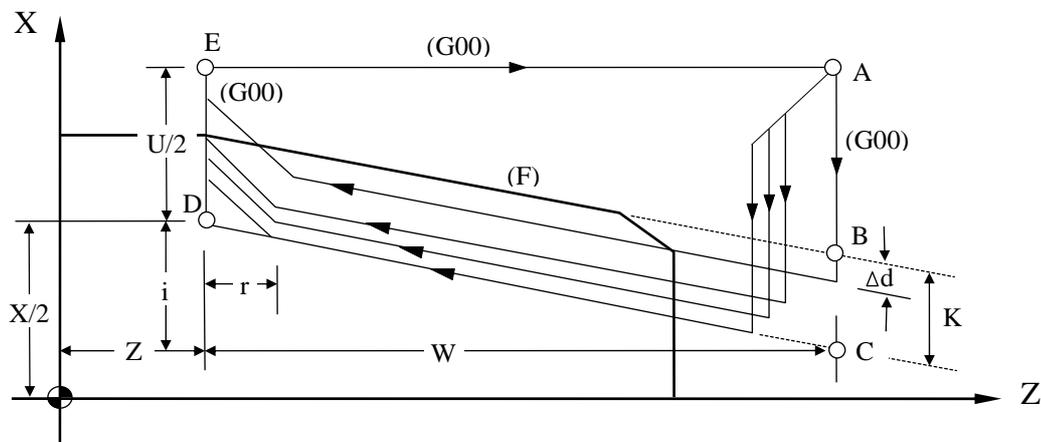

Fig 3-36 Compound Thread Canned Cycle, G76
- The segment CD is cut with feed-rate F(l) while the rest with G00. The sign for incremental coordinate (U, W) and R is determined by the direction of segment AC and CD. In Fig 3-36, they are all negative.